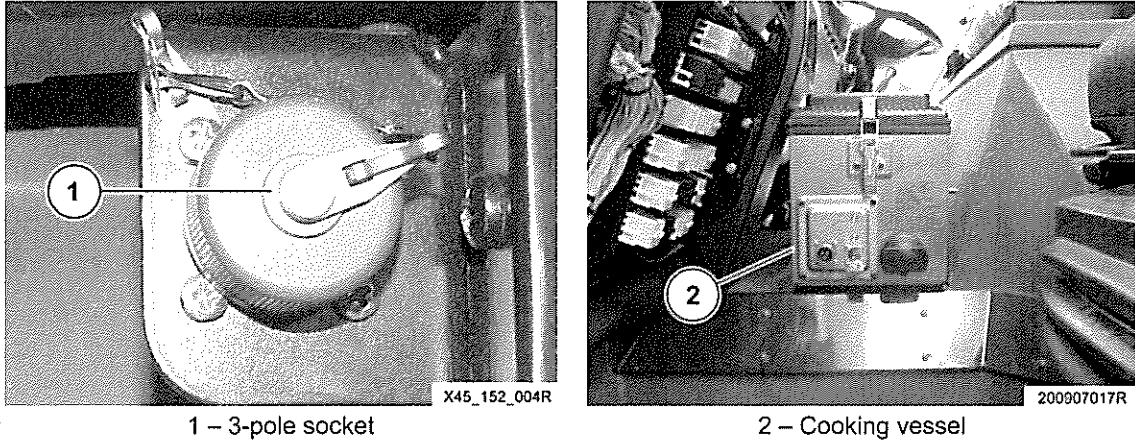

Fig 2 Cooking vessel
- 5 Refer to Fig 2. The cooking vessel provides a potable water and pre-packaged rations heating facility for the crew of any military vehicle which has a 22V DC-28V DC (24V DC nominal) electrical system. Operation is possible at any time (including full battle conditions) in any climate while stationary or mobile.
(2) HIGH TEMPERATURES. ALWAYS MAKE SURE THAT THE COOKING VESSEL COVER IS PROPERLY CLOSED AND LATCHED BEFORE OPERATING OR AT ANY TIME THAT THE HOST VEHICLE IS MOBILE. FAILURE TO SECURE THE COVER CAN RESULT IN THE ACCIDENTAL SPILLAGE OF HEATED WATER AND EXPOSURE TO SERIOUS BURNS.